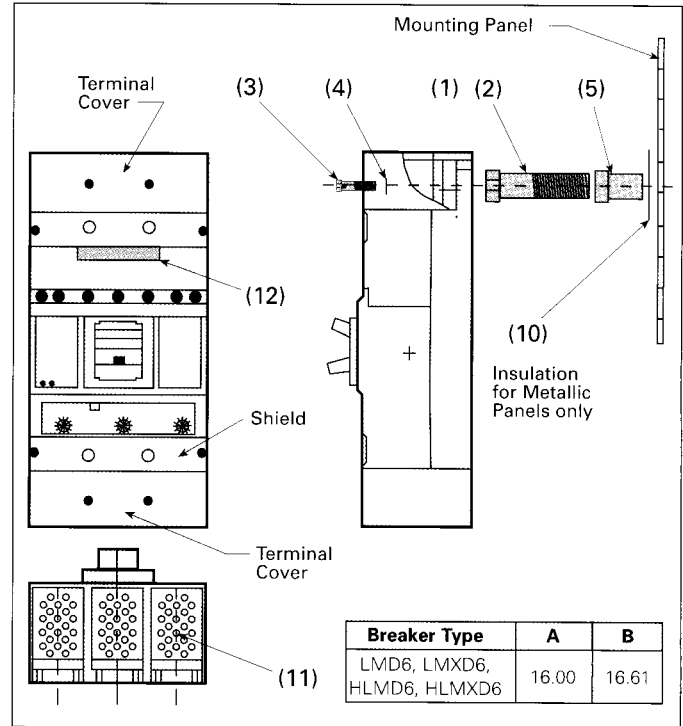

Figure 2
- Insert the end shields (11) into the slots provided at the line and load ends of the terminal covers as shown in Figure 2, one for each stud position. Replace terminal covers and shields.
- Affix the label "BREAKER IS EQUIPPED WITH REAR CONNECTING STUDS" (12), Pc. No. 60229 to breaker cover as shown in Figure 2.